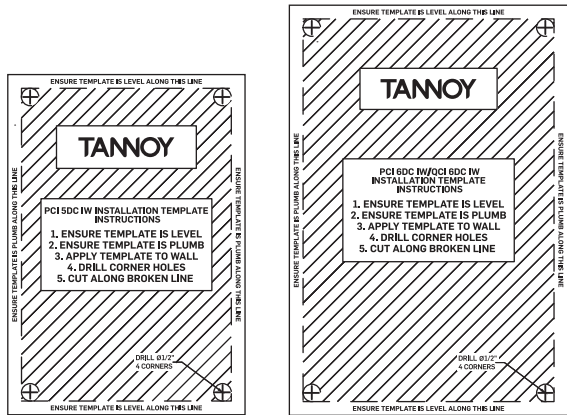

Fig. 1.Cutout Templates
2. Use the supplied cutout templates (Fig. 1) in the desired location and carefully cut out a hole in the drywall using a suitable handtool. Remove any dust and debris from the hole (Fig. 2).